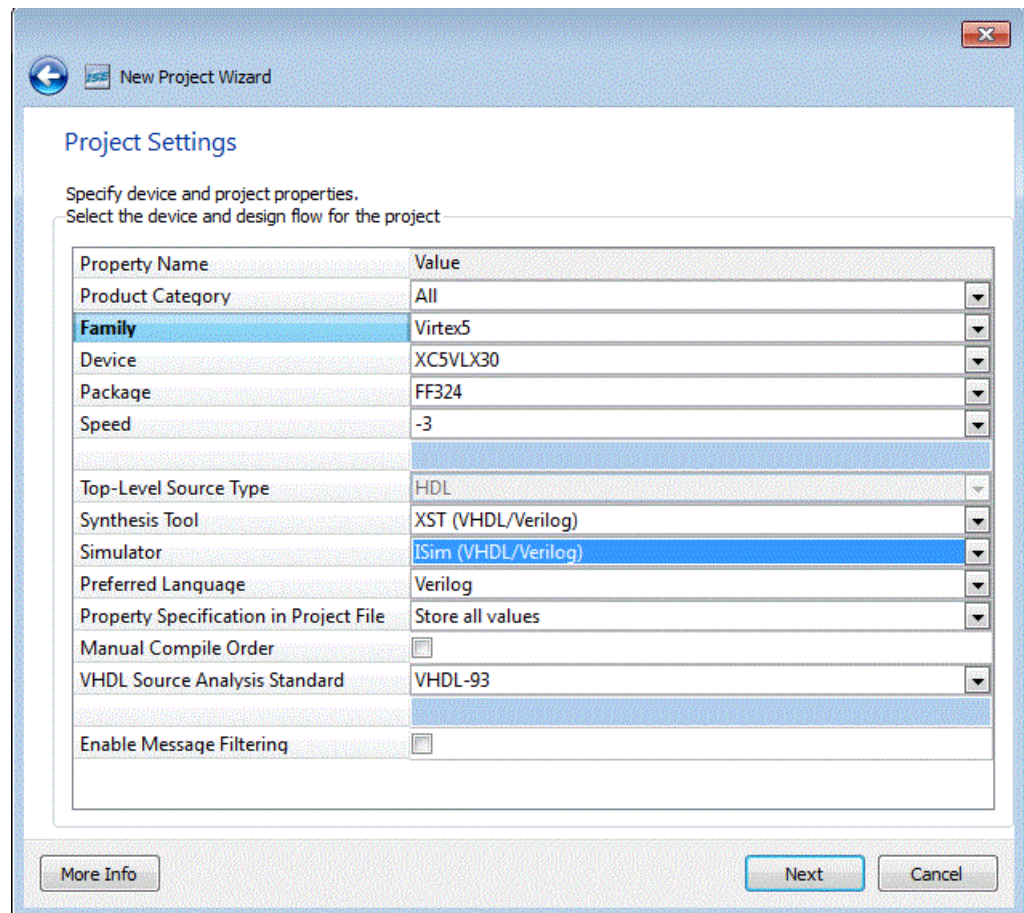

Figure 2-3: New Project Wizard: Project Settings
6. Change the settings to match the settings shown in Figure 2-3.